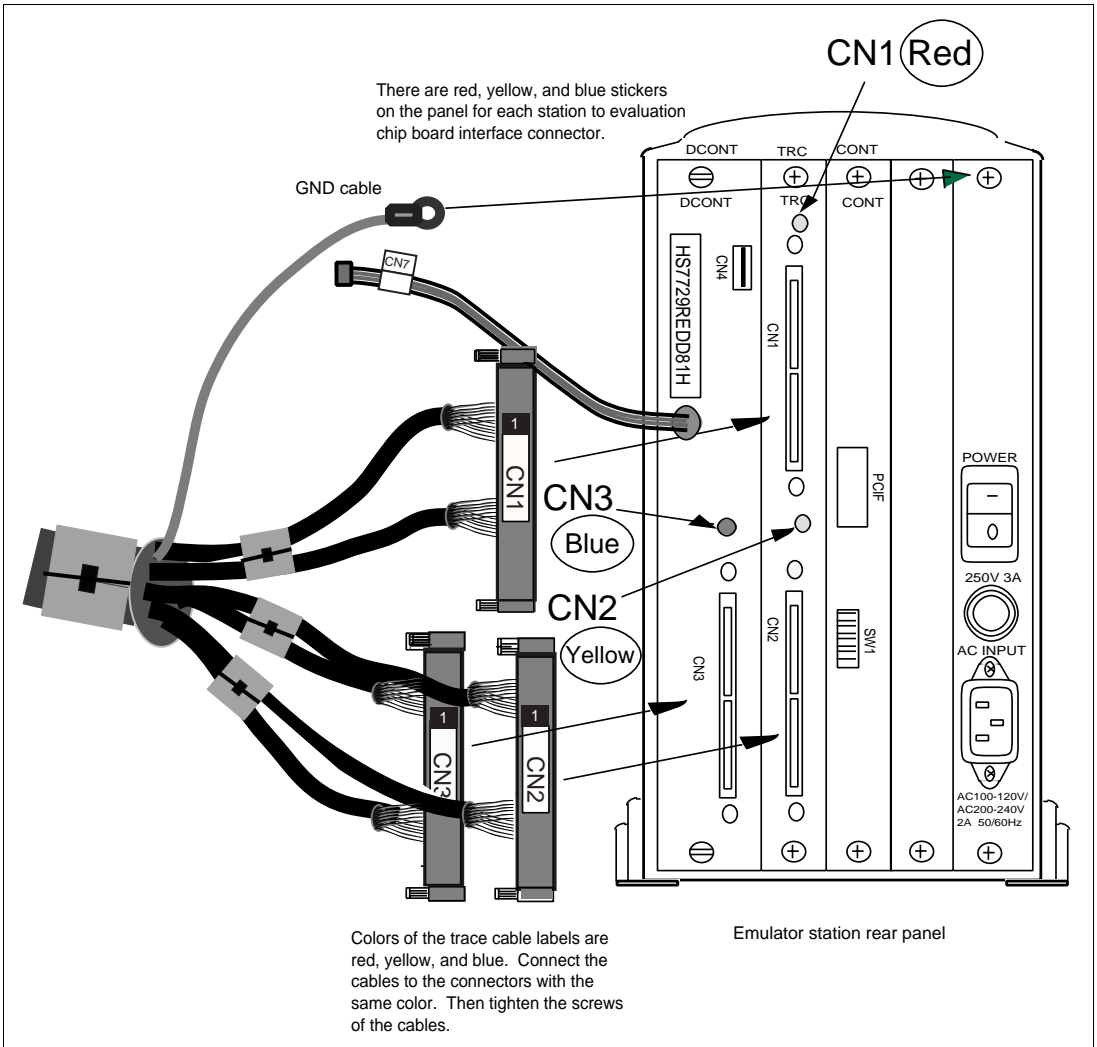

Figure 3.4 Connecting Trace Cables to the Emulator Station
- Connect the trace cables into the station to evaluation chip board interface connectors (CN1, CN2, and CN3) on the emulator station's rear panel. Confirm that the shape of the trace-cable plug matches that of the station to evaluation chip board interface connector before connecting. Also note which trace cable is connected to which emulator station connector so that the other end of the trace cable is connected to the matching connector number on the evaluation chip board. After the connection is completed, alternately tighten the screws on both sides of the trace cable to prevent the upper or lower side of the trace cable from lifting off the connector. Figure 3.4 shows how to correctly connect the trace cables to the emulator station connectors.